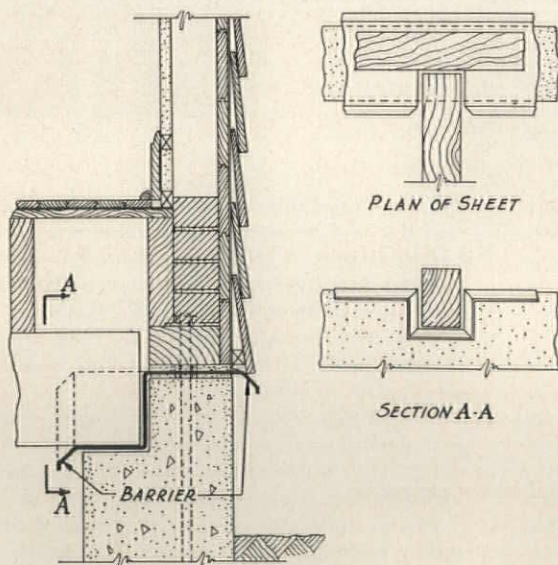

FIGURE 9
**CELLAR BEAM POCKETS** Figure 9 shows a barrier shield installed at a cellar beam pocket. In this application the shield must be cut, fitted and soldered to meet the dimensional specifications of the beam, thickness of wall, etc. If a bolt is inserted through the termite shield, extreme care must be taken to assure an absolutely tight joint.